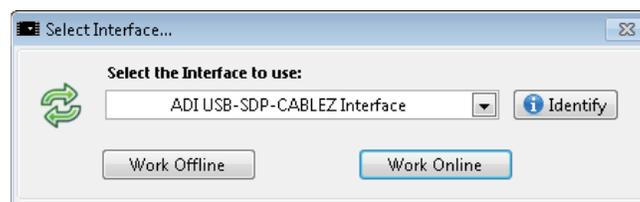

Figure 1. I2C Interface
4. Click **Work Online** (see Figure 1). Note that to enable the I2C link,